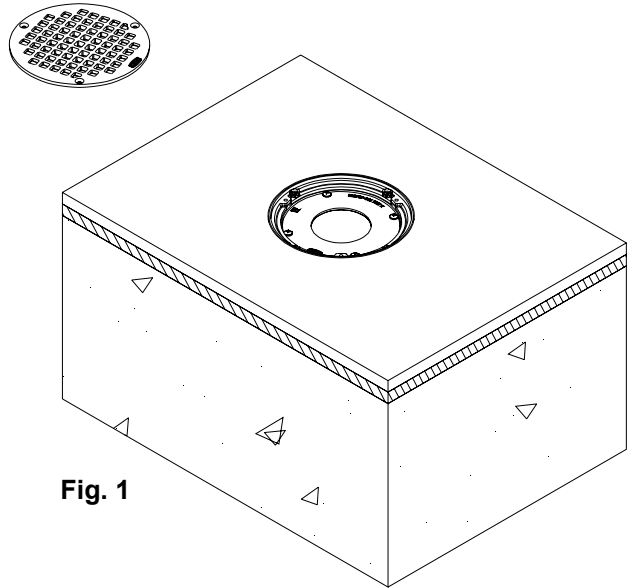

Fig. 1
1. Remove screws and strainer from installed drain. Make sure drain outlet is clear of any debris or obstructions prior to installing the ZPTSP. See Fig. 1.